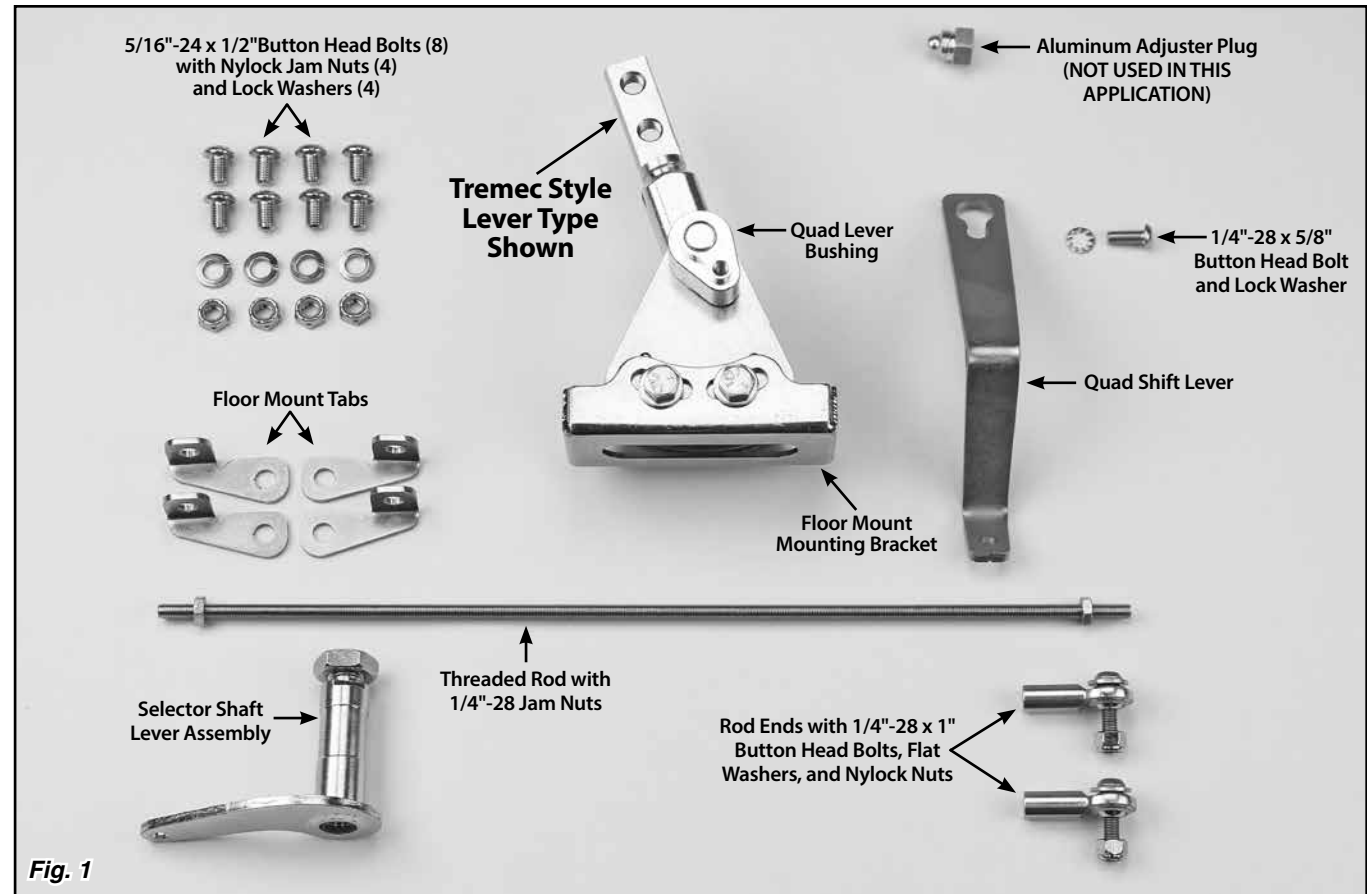
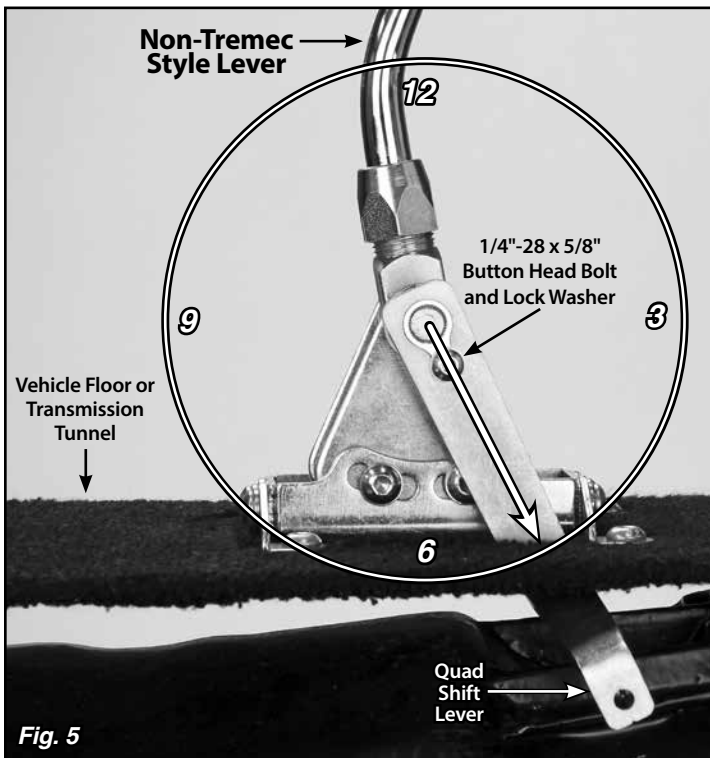

Fig. 1
Fig. 5
Refer to Fig. 1 for the component names.
This Shifter is offered either with a stub designed to accept a Tremec style bolt on Shifter Lever (as shown in **Figs. 1, 3 and 10**, Shifter Lever available separately but not included) or with a pre-installed round tubular Shifter Lever (as shown in **Fig. 5**). The installation of both styles of Shifter is the same.
Step 9: Temporarily place the quad shift lever in position on the quad lever bushing as shown in **Fig. 5**. Check for interference with the driver side rear floor mount tab or the vehicle floor. With the shifter lever in Park, you want the quad shift lever to be as close to the 4:30 - 5:00 position as the floor mount tab will allow, without the quad shift lever touching the floor mount tab or floor.